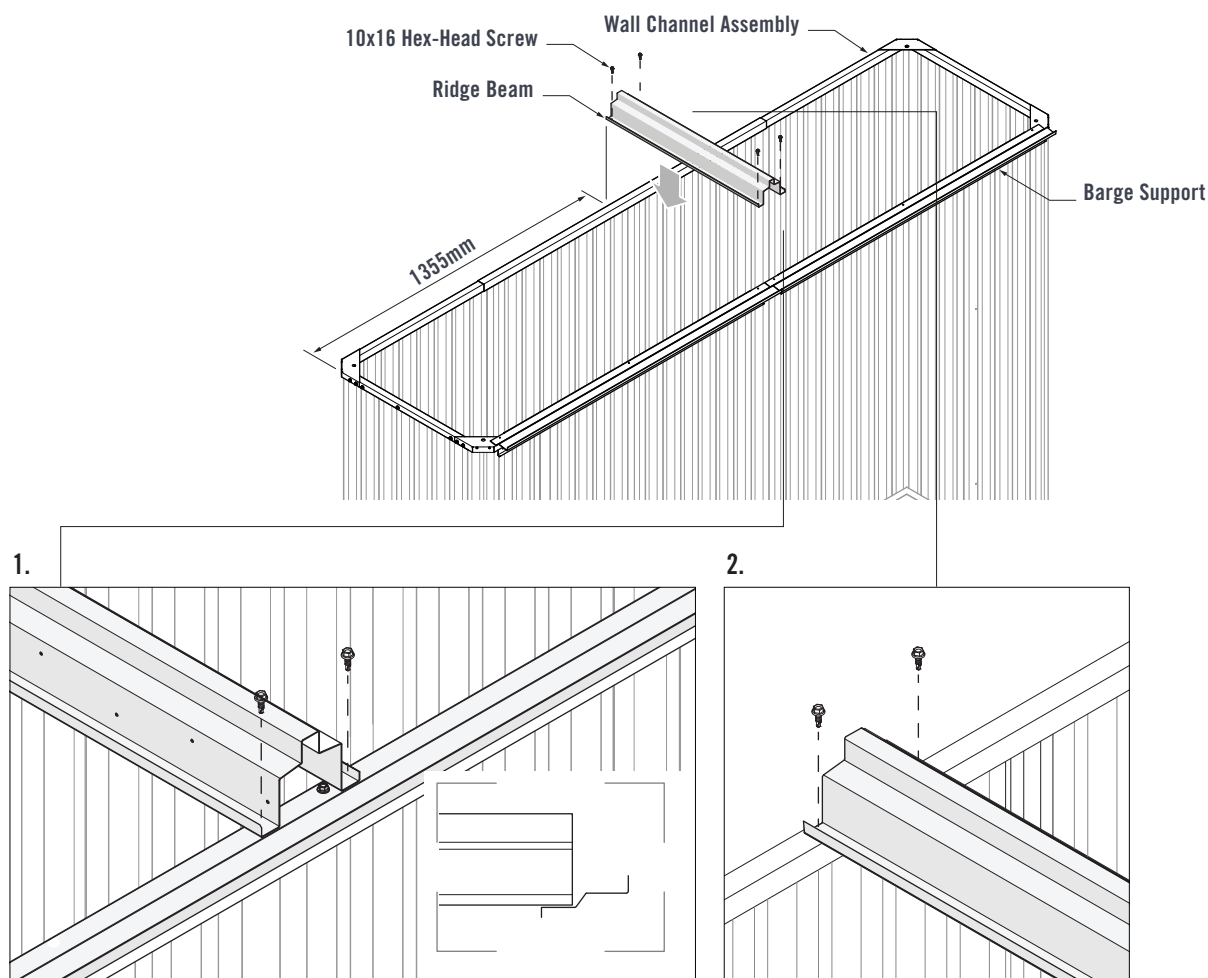

FIGURE 8.1
Fit the Ridge Beam onto the top Wall Channel Assembly and Barge Support. Ensure 1355mm spacing between the edge of the shed and edge of the Ridge Beam (Figure 8.1).
1. Align the end of the Ridge Beam with the step of the Barge Support. Fasten two 10x16 Hex-Head Screws through the pilot holes in the Ridge Beam and into the Barge Support (Figure 8.1).
2. Fasten two 10x16 Hex-Head Screws through the pilot holes in the Ridge Beam and into the rear Wall Channel Assembly (Figure 8.1).